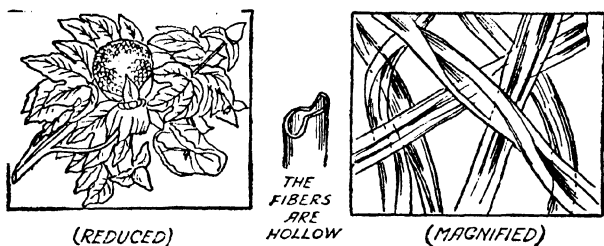

FIG. 44. THE COTTON PLANT AND ITS FIBERS
Kinds of Goods.—Goods are made of two kinds of fibers and these are (1) *plant fibers* and (2) *animal fibers*. Cotton, see Fig. 44, and linen, which are of the first class, are nearly pure *cellulose* ($C_6H_{10}O_5$) and both have smooth, hollow fibers.